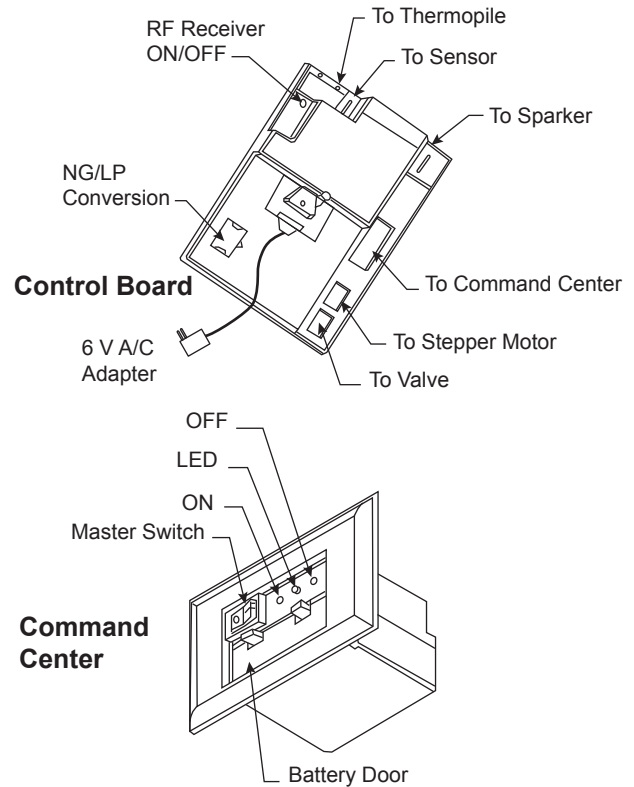

Figure 62 - Signature Command System Components
1. The RF receiver button located on the Control Board must be in the on position before the learn function can begin. Use paper clip to depress button. One beep for RF receiver ON or two beeps for RF receiver OFF will be given as confirmation. Refer to Figure 62 for location.